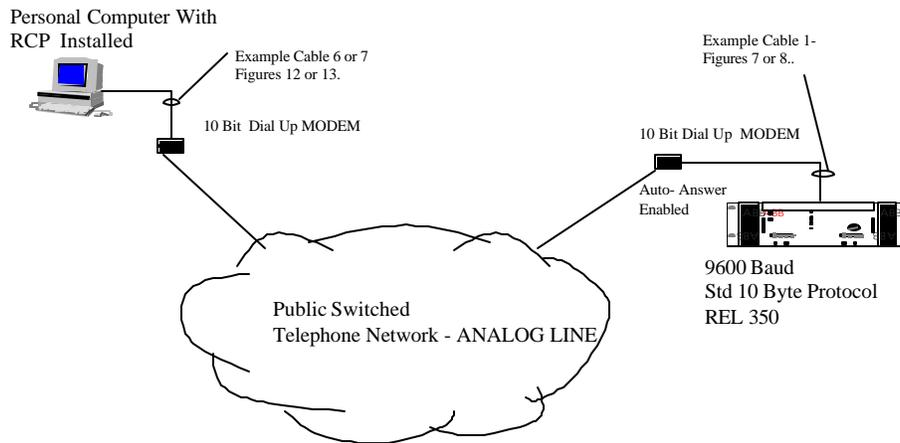
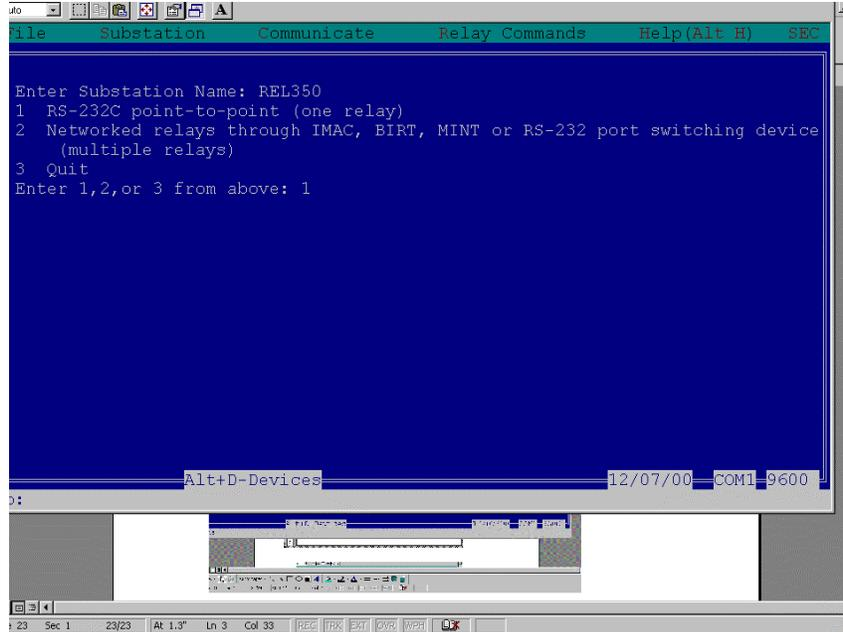

Figure 20. RCP to REL350 Communication Topology Example
Figure 24. Initial Substation Configuration Screen
If one wished to connect an ABB transmission relay such as a REL300 (MDAR), REL301, REL302, REL350, REL352 or REL356 to its configuration software (RCP – Remote Communication Program), using a dial up configuration as illustrated in Figure 20 is quite possible. The REL transmission relay uses a PONI R card for direct point to point communication via a cable or a modem. Please reference Instruction Leaflet 40-603 titled RCP Communication Program Users GUIDE and Instruction Leaflet 40-610 titled RS-PONI RS232 Product Operated Network Interface User's Guide.
2. Attach the correct cables as to the relay devices as indicated in Figure 20. In this example however, we shall disable handshaking (RTS/CTS) in the modem, so a straight through DTE to DCE cable is necessary.
As per Figure 20, connect the cables as indicated for the personal computer to modem and the REL350 PONI R to modem connection. In this example, the handshaking shall be disabled on the PONI R card modem. Thus even using standard off the shelf cables (9 to 25 pin cables with each pin run straight through) shall operate in this example.
A file must be configured for the REL350 connection. Since a PONI R card is not addressable, it is considered a point to point device. As illustrated in Figure 24, one must pick an option for the configuration. In our example (as shown in the topology of Figure 20), although the REL350 is networked through a modem, the connection is still point to point, one must select the selection “1” to allow correct connectivity. Figure 24 illustrates the screen queries and answers for this specific example.